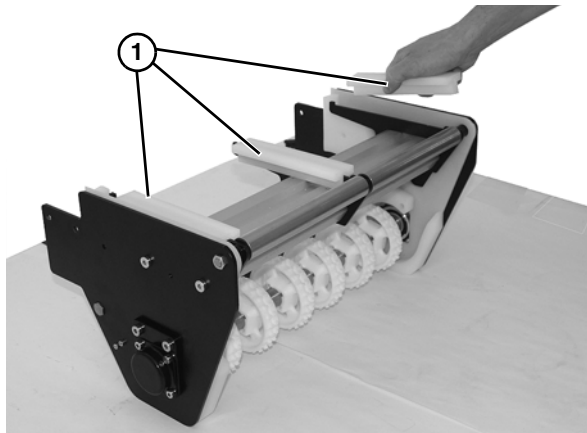

Figure 45
4. Remove wear strip, (**Figure 45, item 1**), as necessary.